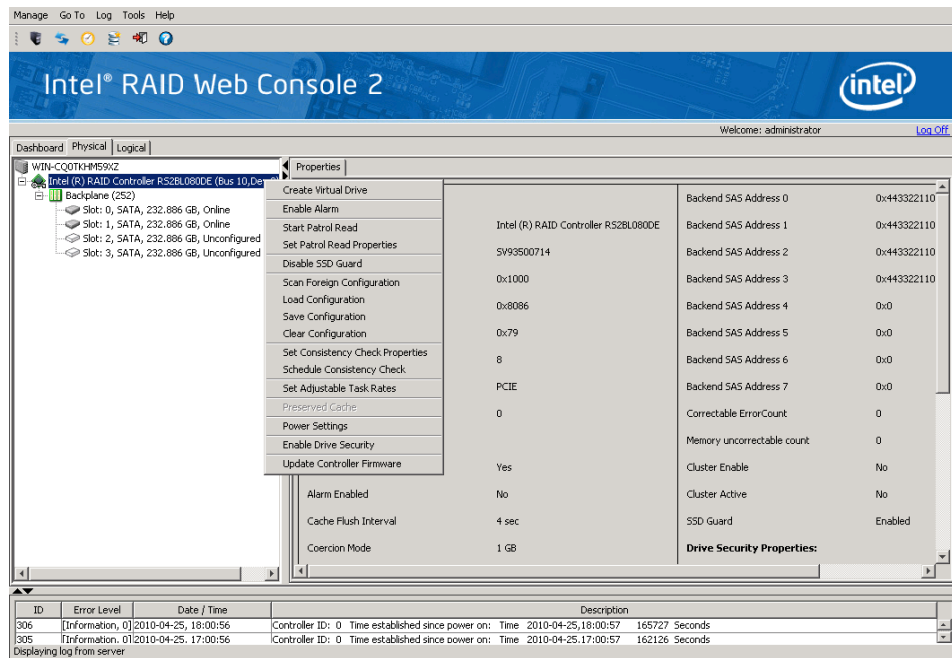

Figure 50. Virtual Drive Creation Menu
- Select the controller node and select Go To -> Controller -> Create Virtual Drive in the menu bar, as shown in Figure 50.